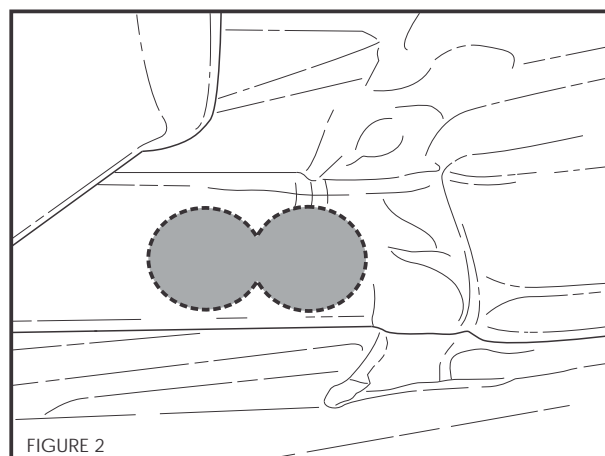

FIGURE 2
- You will have to identify the decals under the body sealer on the vehicle as shown in Figure 2.